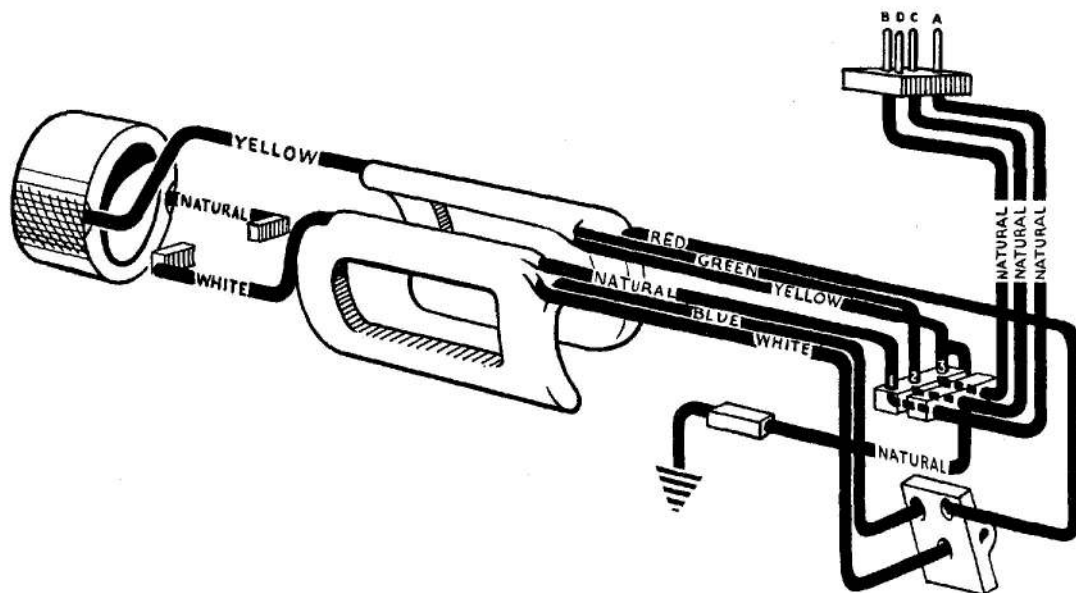

Fig. 4. Practical wiring diagram
47. Connect and secure the leads to the back of the switch as shown in fig. 4, and position the leads to the terminal block. Do not secure them until the plug is fitted to the switch cover and the cover is secured to the intermediate plate with two 4 B.A. cheesehead screws. The screw shank is 1.062 in. long.